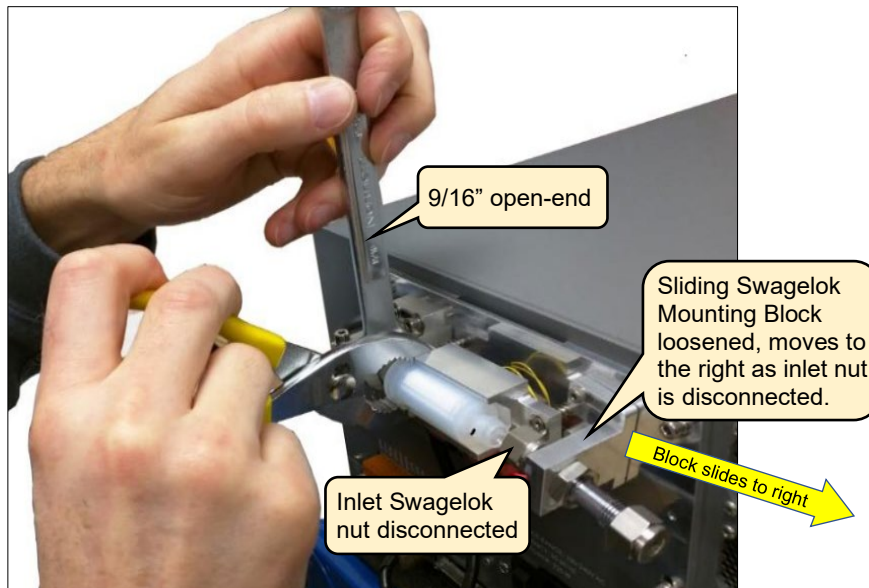

Figure 29: PTFE Filter Disconnection
- Replace the Swagelok ferrules on the filter inlet and outlet tubes. Figure 29: shows the left (filter outlet) tube with ferrules.